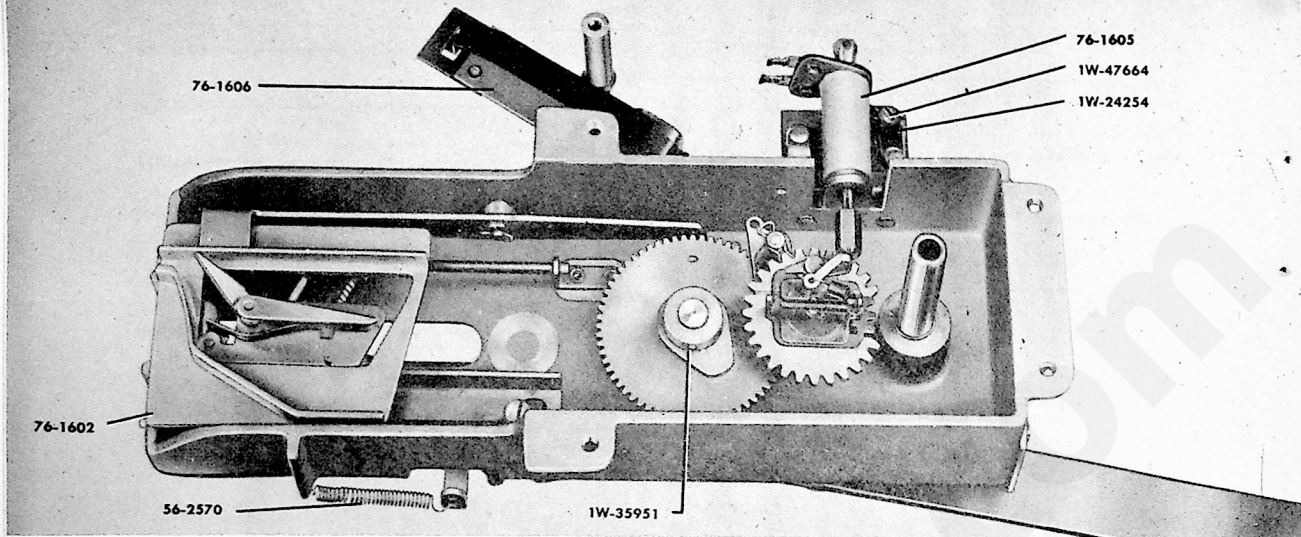

Figure 30—CHANGER MECHANISM ASSEMBLY, TOP VIEW.
- d. Remove two screws, 1W-47664, figure 30, holding solenoid assembly 76-1605 to mechanism, and remove solenoid.
- c. Remove the two screws, 1W-47664, and lock-washer, 1W-24254, figure 30.
- d. When replacing this assembly, align the solenoid plunger so that its center strikes the latch and trips the segment gear, but does not over-push so as to bind the gear segment. The correct position is shown in figure 30.